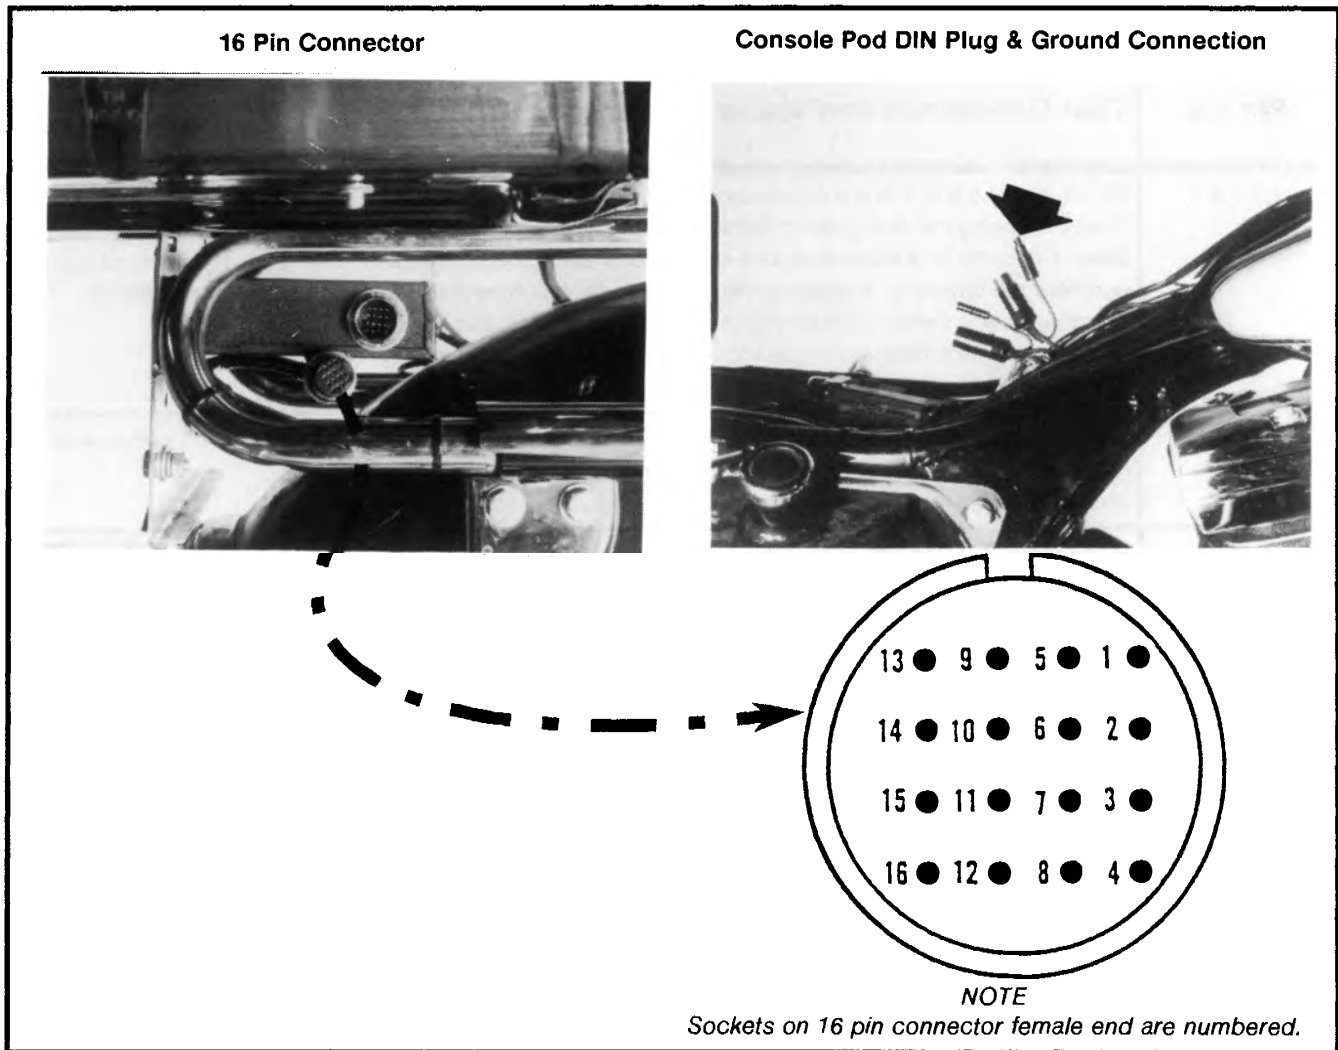

Figure 8-55. 16 Pin Connector and Console Pod DIN Plug and Ground Connection
- See Figure 8-55. The sockets in the 16 pin connector are too small for a probe, so insert a paper clip in the sockets and touch the paper clip with the probe. Be sure to remove any rough edges on the paper clip.